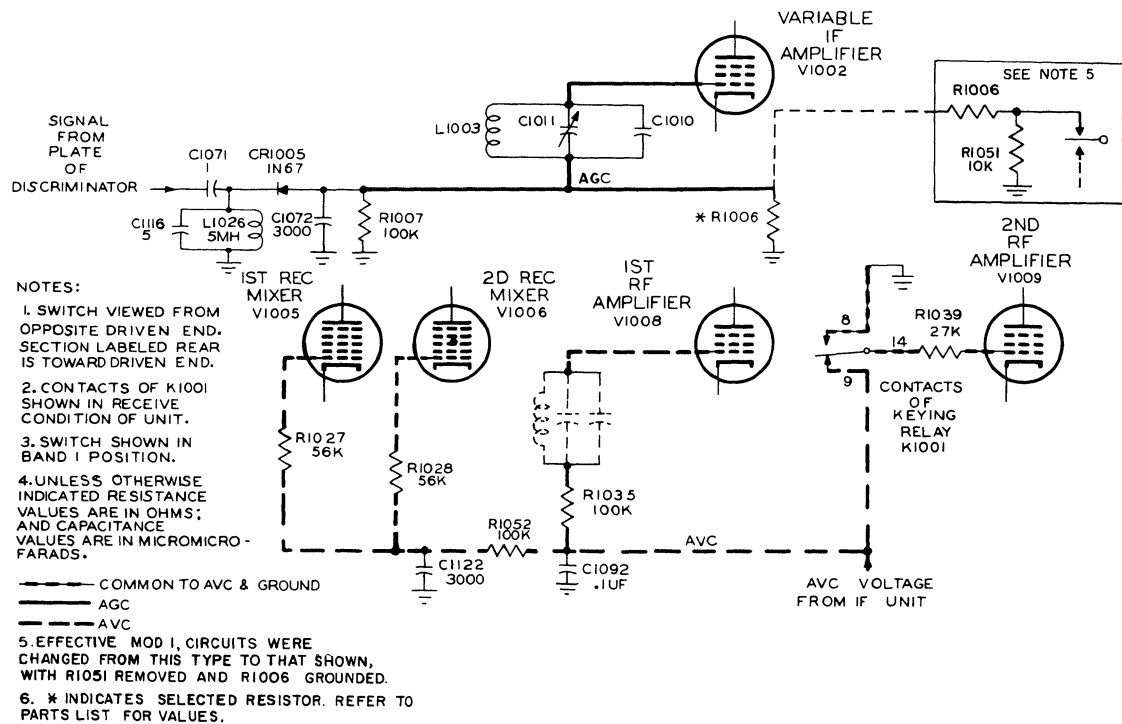

Figure 4-19. Tuner Unit, AGC-AVC Circuits, Simplified Schematic Diagram
4.9.3.4 AGC-AVC CIRCUITS. Refer to figure 4-19. The agc voltage is applied to the variable i-f amplifier in both transmit and receiver positions. Signal voltage from the plate of discriminator V1001 is coupled through capacitor C1071 to crystal diode CR1005. Inductor L1026 acts as the diode plate impedance. Rectified output voltage is developed across resistor R1007. Capacitor C1072 filters the negative output voltage.